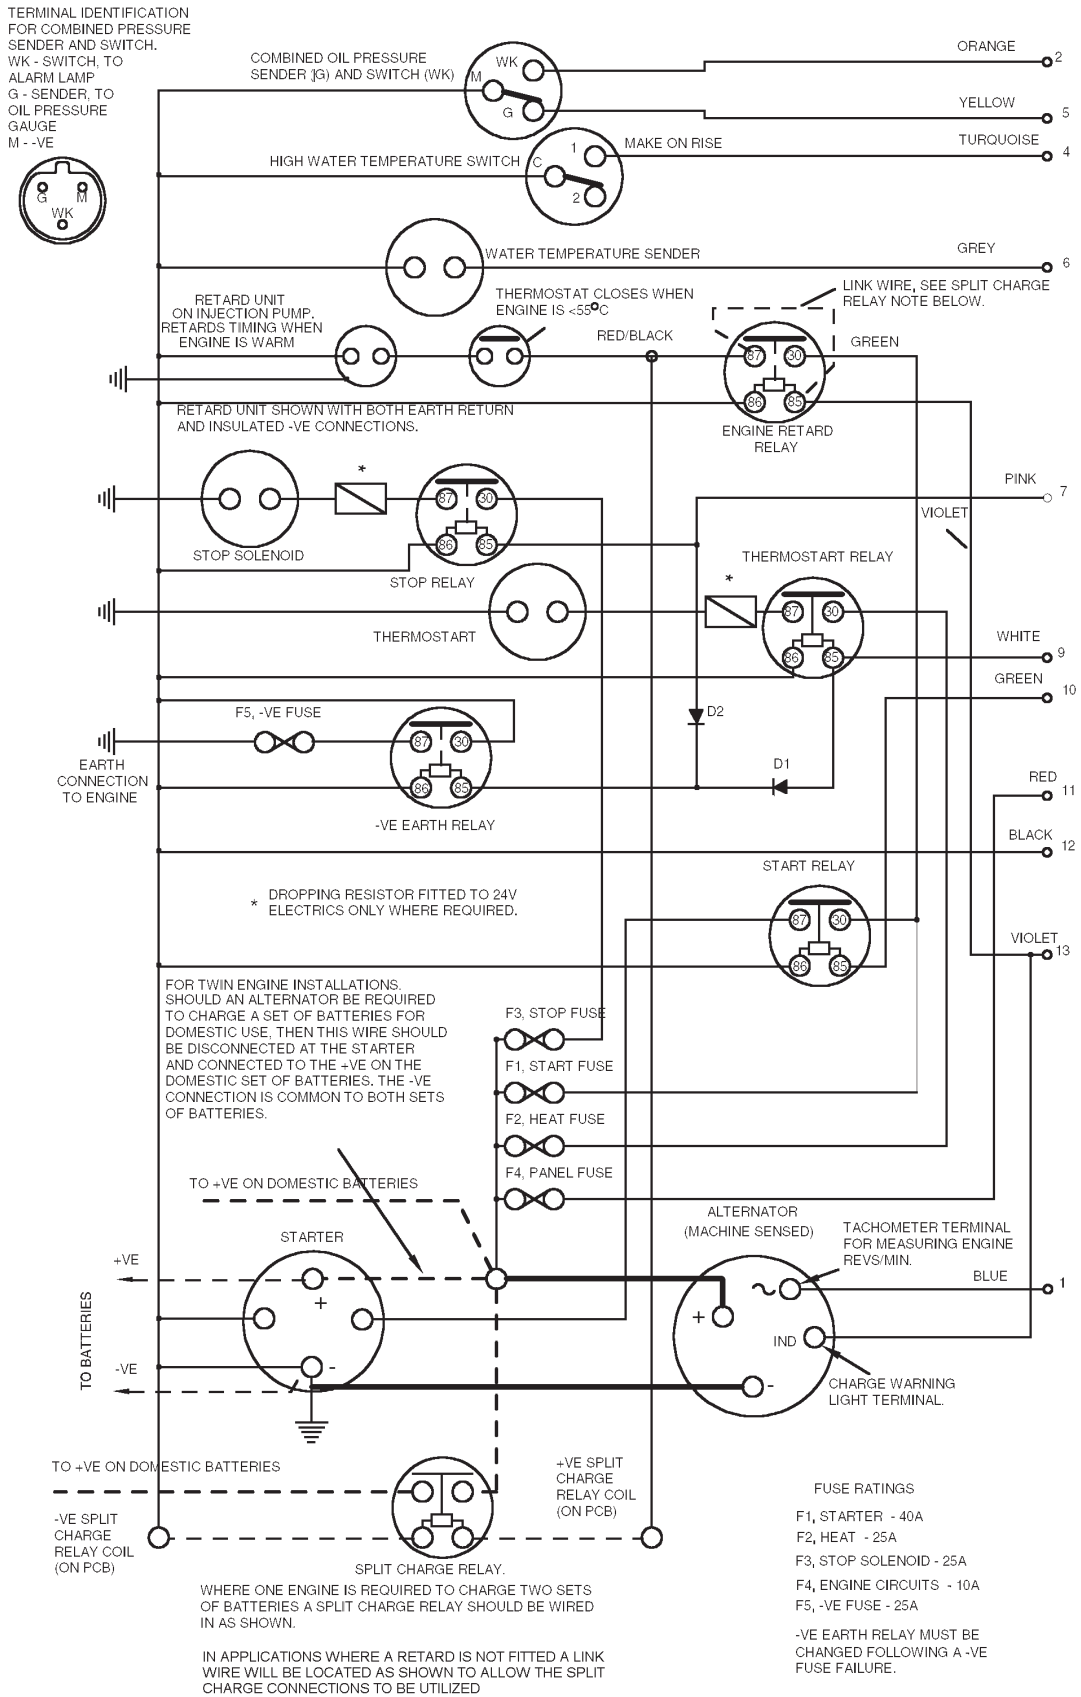

Figure 6 - All 6 cylinder models - insulated and earth return - circuit diagram
- Figure 6 All 6 cylinder - insulated and earth return.